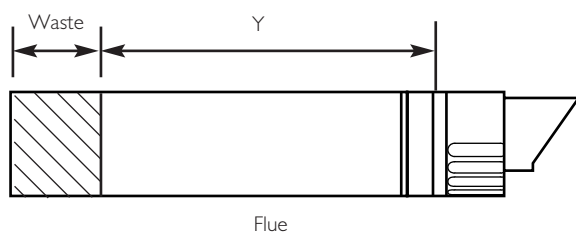

Fig. 42
5. Mark dimension 'Y' on the flue as shown (Fig. 42). Carefully cut the waste material from the flue, ensuring that the ducts are square and free from burrs.